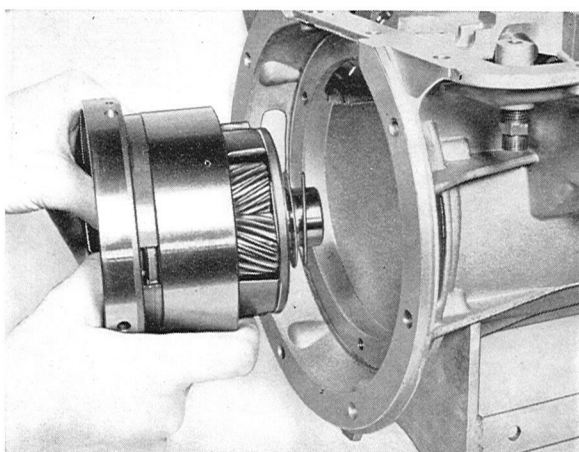

Fig. 4-112. Installation of center support and planet gears with needle thrust bearing and plate washer
7. Assemble the planet gear, one-way clutch and center support, see Fig. 4-112. Stick the thrust plate and needle thrust bearing to the planet cover with vaseline.